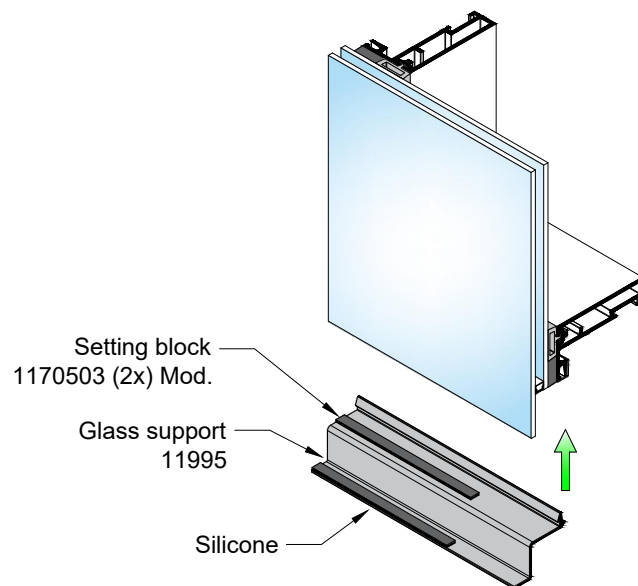

Fig. 19.4
10. If using the SSG support, locate from one end of the sash. Cut 1170503 setting block to size ($\frac{1}{4}$ " wide x 4" long x $\frac{1}{16}$ " thick) and place onto the support, held in place by a dab of silicone. Use a hammer and block of wood to tap the support in place. See **Fig. 19.4**